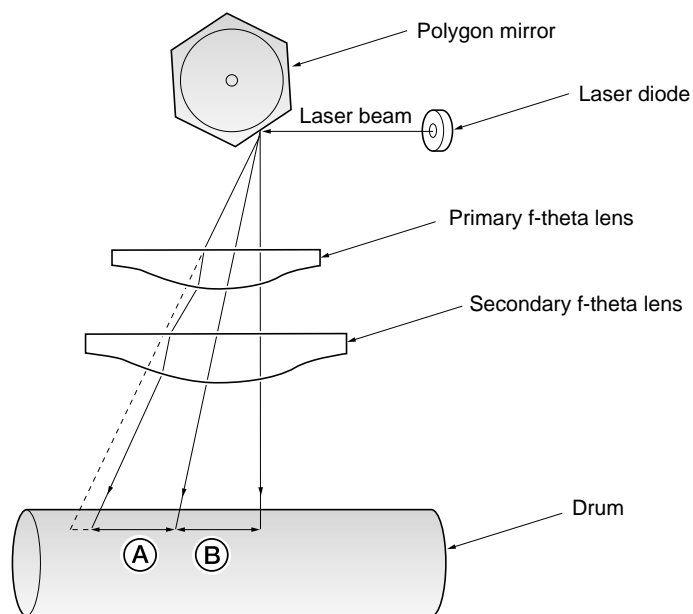

Figure 4-1-7 F-theta lens
⑤ Primary f-theta lens	See figure 4-1-7 below.
⑥ Secondary f-theta lens	The primary (above) and secondary f-theta lenses equalize focusing distortion on the area on the drum closer to the edge. The effective length of line (A), (B) in the figure below) the laser beam draws on the drum becomes longer as the laser beam hits closer to the drum edge. In the figure 4-1-7 below, distances represented by (A) and (B) are not the same ($A > B$) until the f-theta lenses are provided between the polygon mirror and the drum ($A = B$).
⑦ Diversion mirror	Diverts the laser beam vertically onto the drum. Note the diffused laser beam finally pinpoints on the drum.
⑧ Protective glass	Prevent dust, debris, etc., from entering the scanner assembly.
⑨ Sensor mirror	Bends the very first shot of a laser scan towards the pin photo sensor (below).
⑩ Pin photo sensor	When shone by the sensor mirror above, this pin photo sensor generates a trigger signal.